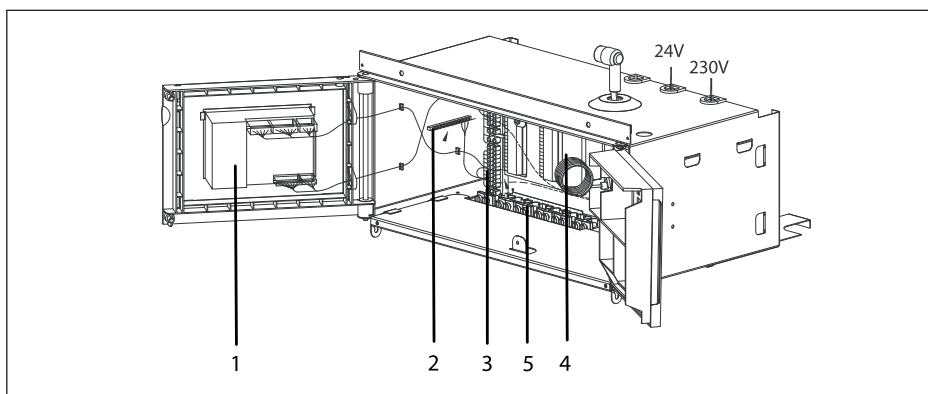
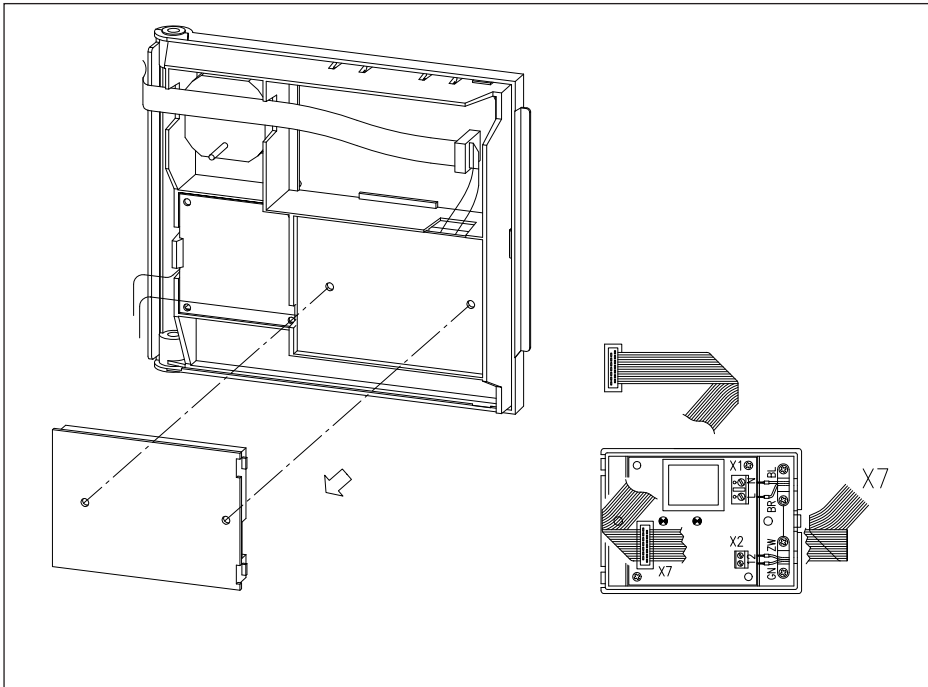

Fig. 15 Fitting 2945 C3 K controller
Fig. 16 Fitting the interface
To make full use of the boiler's modulating feature, an **OpenTherm**[®] or a **rematic**[®] control can be connected. These controls will provide optimised time and weather compensation to achieve maximum efficiency and minimum boiler cycling whilst maintaining design condition within the building. An optional **OpenTherm**[®] or **rematic**[®] interface must be integrated in the boiler, (to fit see Fig. 16).
- **2945 C3 K** - Optimising / weather-compensated boiler control for multiple boilers. These controls are supplied with outside sensor, room sensor, flow sensor (used for multiple boiler installation only) mounting and wiring kit for installation in the boiler, see Fig. 15. Communication between the Optimising / weather-compensated control and the boiler control system is via an interface PCB supplied with the kit (to fit see Fig. 16). Set the \boxed{X} value of the boiler control operation parameter ($\boxed{R_1}$) to $\boxed{1}$.